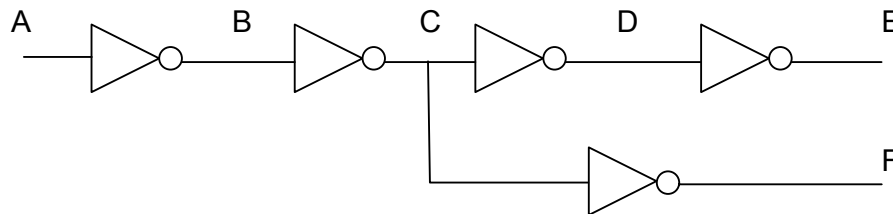

FIGURE 9.1 – CASCADE INVERTERS (5)
9.2 A network of cascade inverters is shown in FIGURE 9.1. If a HIGH (logic 1) is applied to point A, determine the logic levels at the points labelled B through to F.